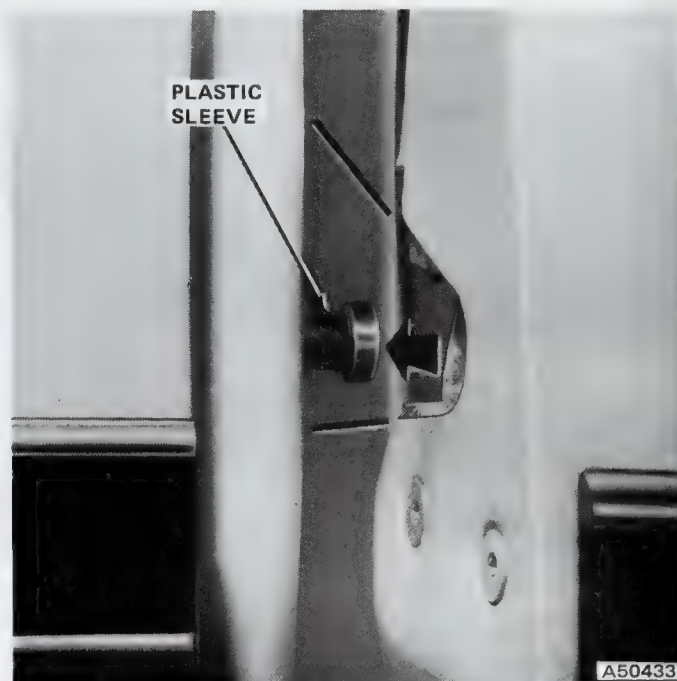

Fig. 3J-29 Lock Striker Alignment
- (1) Determine proper striker alignment (fig. 3J-29).